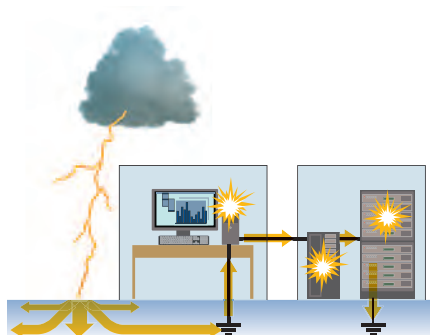

Figure 1: Resistive coupling
- Atmospheric origin (lightning activity) through resistive or inductive coupling (see Figures 1 & 2), and/or